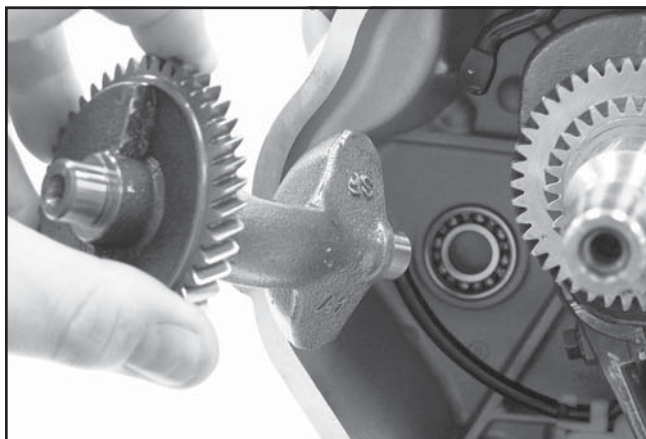

Figure 9-48. Balance Shaft Removal.
1. Remove the balance shaft by pulling it straight out of the crankcase. See Figure 9-48.